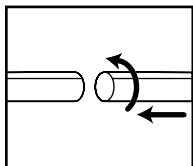

FIGURE 16
19. Attach one of the cleaning accessories (depending on your cleaning requirements) on the extension wands. Twist slightly to tighten the connection. **FIGURE 16.**